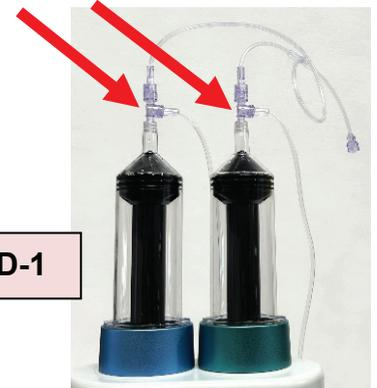

Figure D-1
- Connect three-way valves of Transfer Set to syringes (**Figure D-1**)